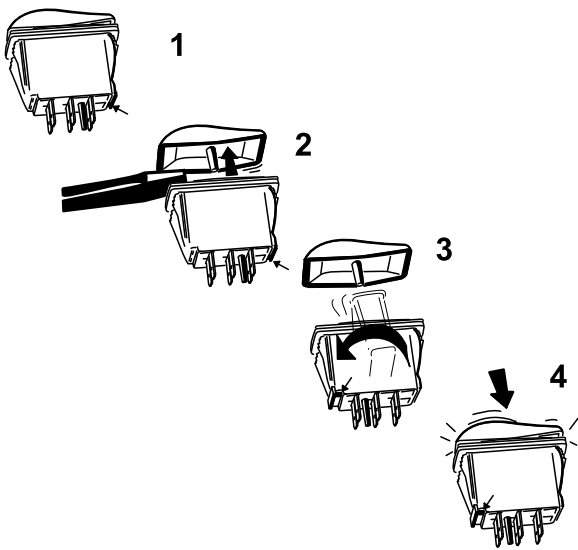

Figure 22
- B. Using a flat head screw driver or similar tool, gently pry the rocker switch covers from the switch bodies (Figure 22).
C. Holding the switch cover in position, flip the switch body 180 degrees so that the connector notch is front left corner (Figure 22).
D. Press the rocker switch covers onto the switch bodies in this new orientation until the cover snaps into place (Figure 22).